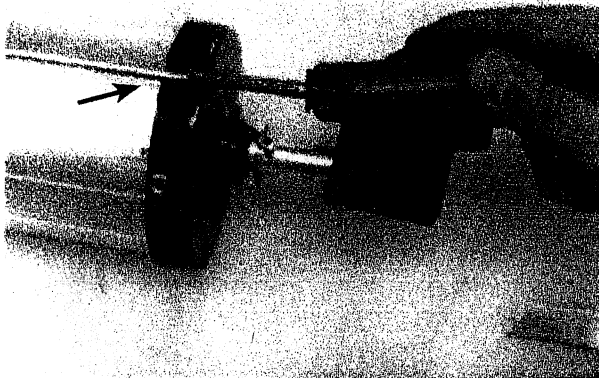

FIG. 3
3. Using a file, remove all burrs on end cap and roller tube before removing the old valance/awning fabric and installing the new valance/awning fabric. **SEE FIG.3**